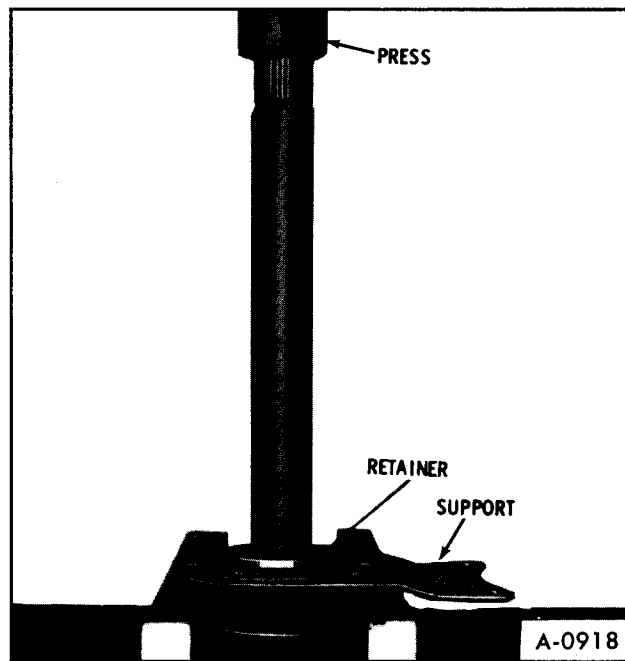

Figure 6—Removing R.H. Output Shaft Bearing
7. If output shaft bearing is to be replaced, it can be removed with a press as shown in Figure 6.